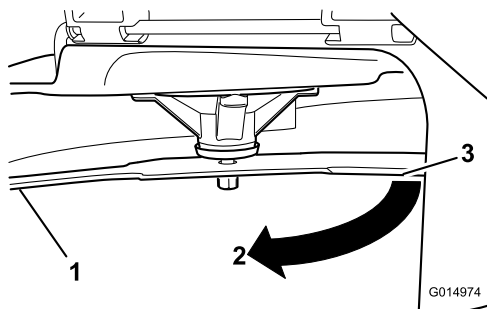

Figure 45
3. Measured distance between blade and the surface (A)
4. Rotate the same blade 180 degrees so that the opposing cutting edge is now in the same position (Figure 45).